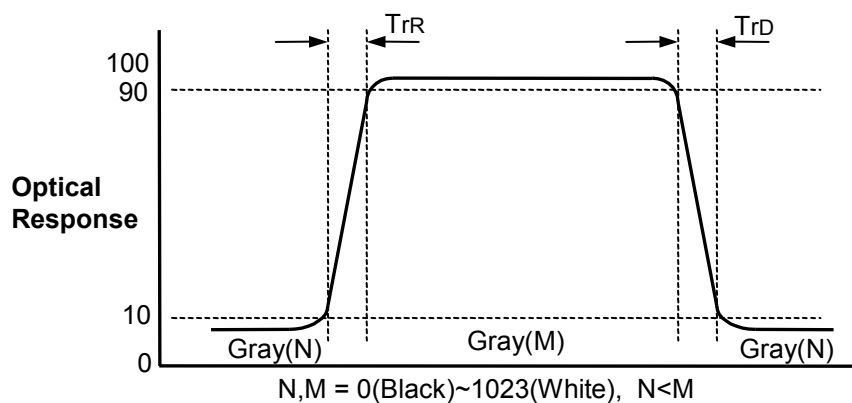

FIG.3 Response Time(G to G)
4. Response time is the time required for the display to transition from G(N) to G(M) (Rise Time, Tr_R) and from G(M) to G(N) (Decay Time, Tr_D). For additional information see the FIG. 3. ($N < M$)